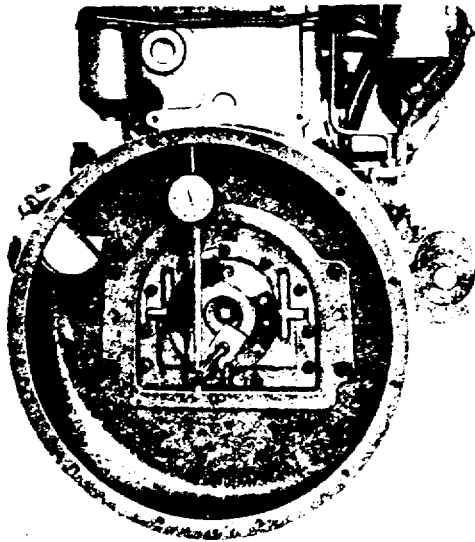

Fig. P.3.
3. Mount a dial test indicator (clock) gauge with the base on the crankshaft flange and the gauge stylus on and perpendicular with the inner face of the housing aperture as shown in Fig. P.3. Rotate the crankshaft, the inner bore should be truly central with the crankshaft within the limits listed towards the end of this section.